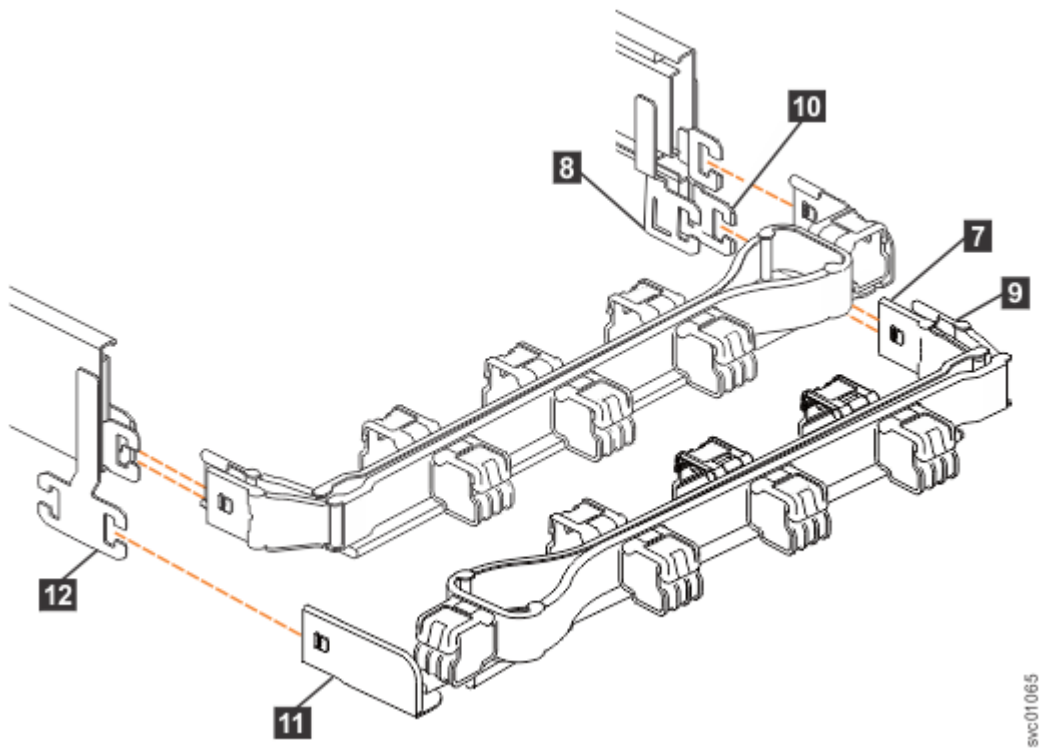

Figure 54. Comparing the location of the components of the CMA assemblies
Note: The procedure for attaching the lower CMA assembly is the same as the procedure to attach the upper CMA assembly. However, the connector locations are reversed. For comparison, Figure 54 on page 54 shows the upper and lower CMA assemblies as they are aligned to the support rails. The support rail connector of the upper CMA attaches to the right rail. The support rail connector of the lower CMA (11) attaches to the left rail.
- Install the inner connector of the lower CMA assembly (7) to the inner member of the right support rail (8), as shown in Figure 54 on page 54).
6. Install the outer connector of the lower CMA assembly (9) to the outer member of the right support rail (10), as shown in Figure 54 on page 54.
7. Attach the support rail connector on the lower CMA assembly (11) to the connector on the left support rail (12), as shown in Figure 54 on page 54.